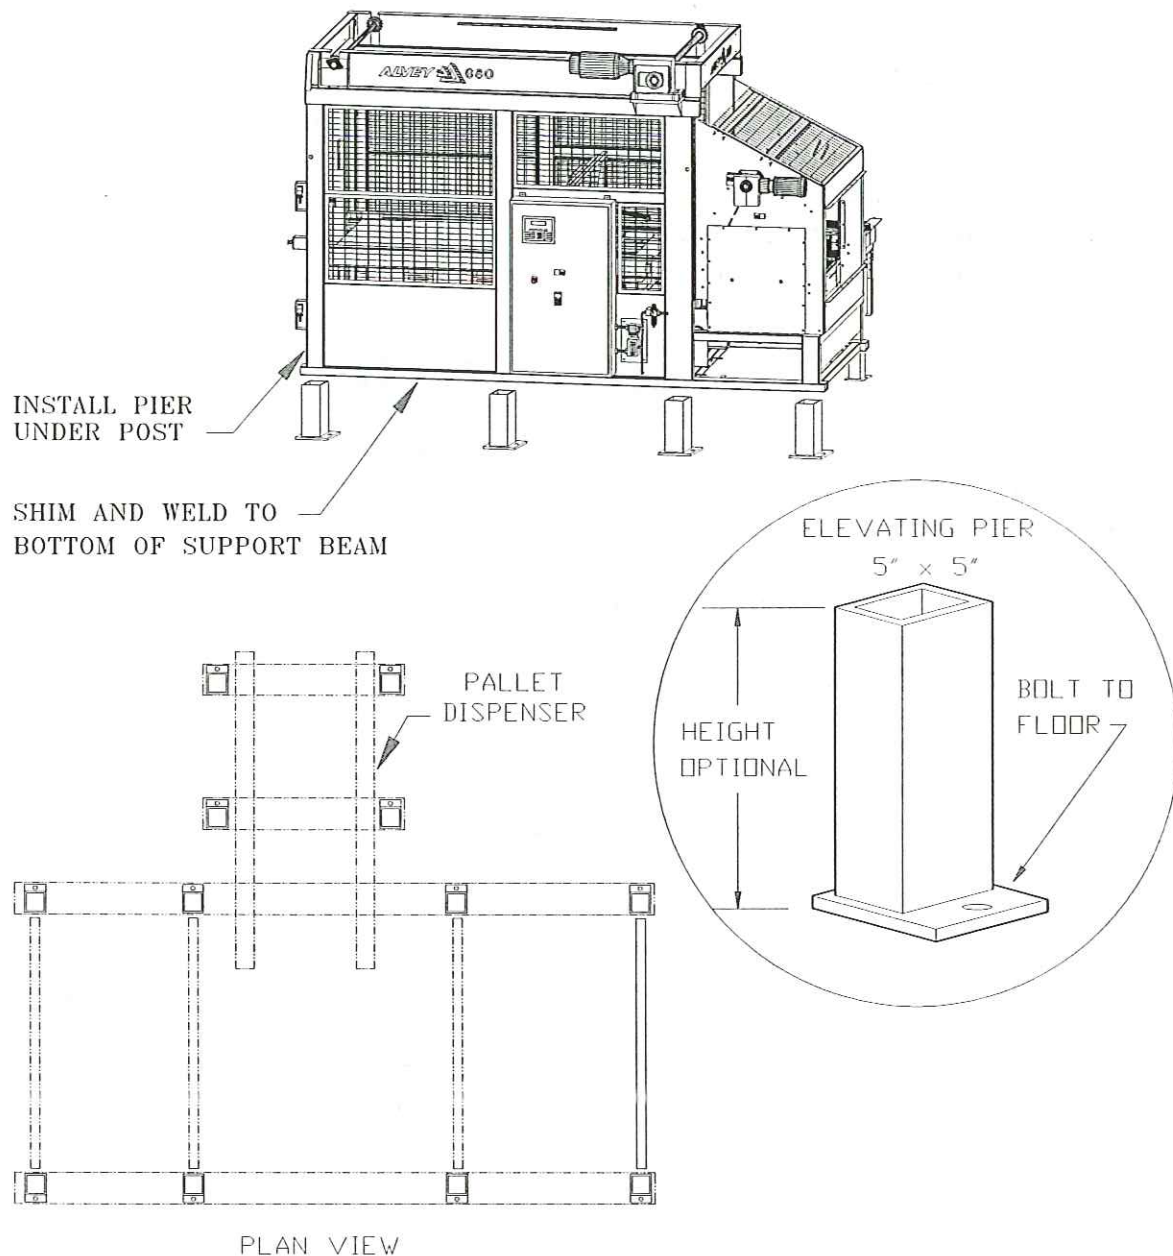

Figure 6-3: Elevating Piers (Optional)
1. Install the elevating piers under the machine. Lift the palletizer/unitizer to locate the elevating piers under the base frame at each vertical post location. (See Figure 6-3.)
2. Level the pallet dispenser. If required, install optional elevating piers under the pallet dispenser frame. (Refer to Figure 6-3.)